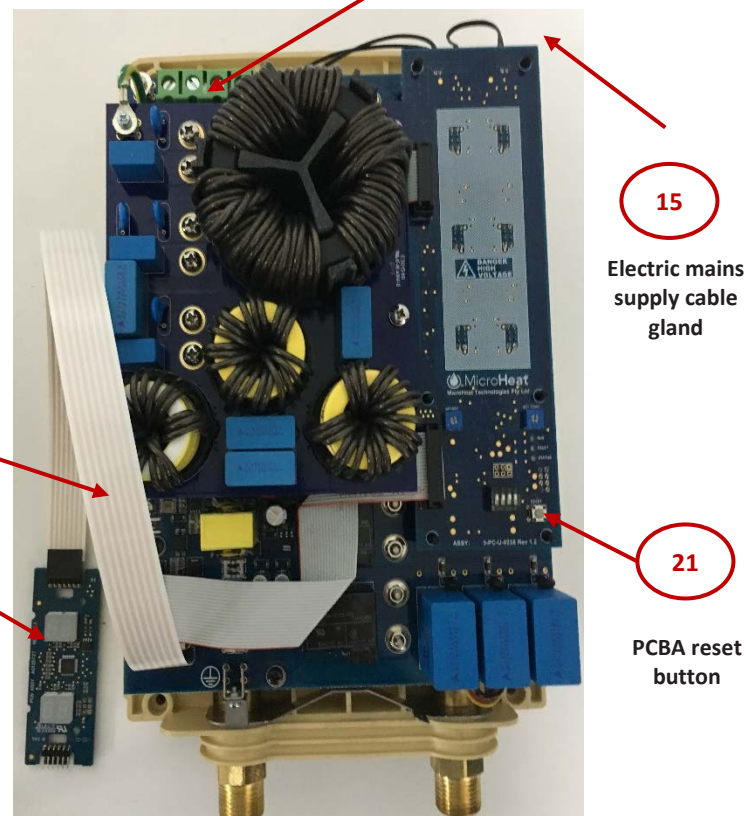

Figure 4 - CFEWH Series 2 PCBA Assemblies
3. Mount the unit onto the wall. Refer back page (23) of Manual for mounting screw-hole position template and page (19) for product dimensions.
5. The electricity supply cable must be brought through the electric gland, and then connected to the terminal block (14) – see page (12), Figure 4. The cable enters from the rear of the appliance.